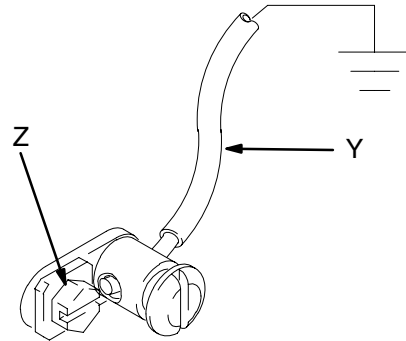

Fig. 1
1. *King Pumps:* use a ground wire and clamp. See Fig. 1. Remove the ground screw (Z) and insert through eye of ring terminal at the end of ground wire (Y). Fasten ground screw back onto pump and tighten securely. Connect the other end of ground wire to a true earth ground. Order Part No. 222011 Ground Wire and Clamp.